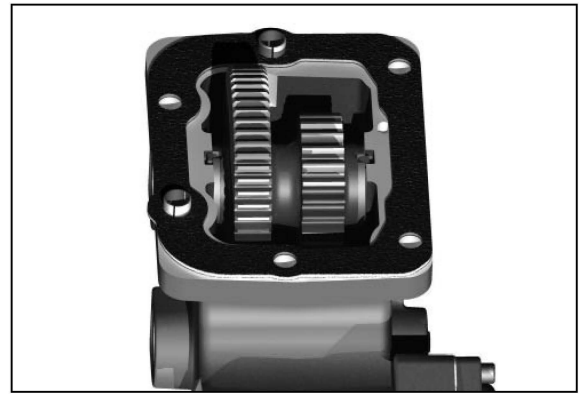

Figure 13
13. Slide the special gasket (22-P-120) supplied with the P.T.O. over the split dowels (**Figure 13**) installed in the P.T.O. This is the controlled compression gasket that is used to eliminate the setting of the gear backlash between the P.T.O. and transmission.